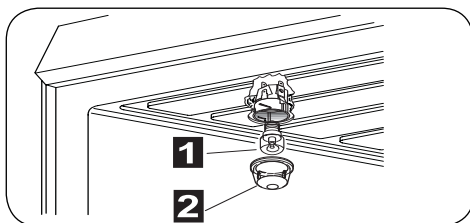

Fig. 7
**Lamp holder (fig. 7):** Draw out the side guide rails as described above. Then, remove the glass protection cap **2** from the bulb socket, lifting it with a screwdriver placed between the cap and the oven wall and replace the lamp **1**. Fit the accessories back in reverse order.